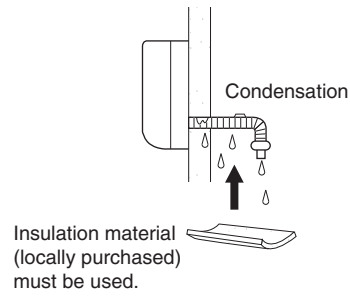

Fig. 3-70
- c) If the drain hose will run in the room, insulate the hose with insulation* so that chilled condensation will not damage furniture or floors. (Fig. 3-70)